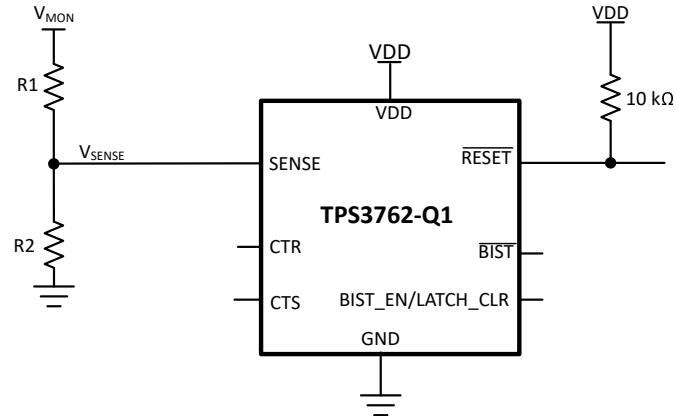

图 11-1. Adjustable Voltage Threshold with External Resistor Dividers
图 11-1 illustrates an example of how to adjust the voltage threshold with external resistor dividers. The resistors can be calculated depending on the desired voltage threshold and device part number. TI recommends using the adjustable (0.8V voltage threshold device) when setting adjustable voltage thresholds. This variant bypasses the internal resistor ladder.
For example, consider a 12V rail,  $V_{MON}$ , being monitored for overvoltage (OV) using of the TPS3762D02OVDDFRQ1 variant, as shown in 图 11-1. The monitored OV threshold, denoted as  $V_{MON+}$ , is the desired voltage where the device asserts the reset. For this example  $V_{MON+} = 35V$ . To assert an overvoltage reset the voltage at the sense pin,  $V_{SENSE}$ , needs to be equal to the input threshold positive,  $V_{ITP}$ . For this example variant  $V_{SENSE} = V_{ITP} = 0.8V$ . Using  $R_1$  and  $R_2$  the correlation between  $V_{MON+}$  and  $V_{SENSE}$  can be seen in 方程式 8. Assuming  $R_2 = 10k\Omega$ , and  $R_1$  can be calculated as  $R_1 = 427.5k\Omega$ .